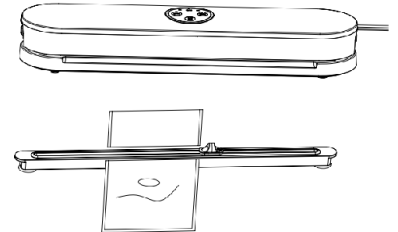

Fig.9
3. Slowly swipe the cutter from left to right to complete the cutting. As shown in Figure 9.